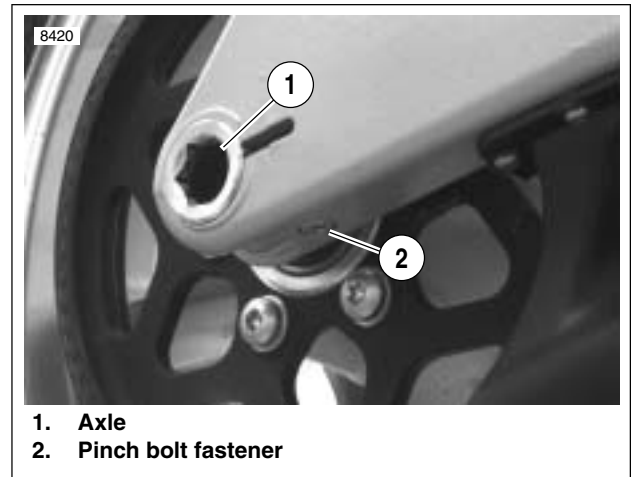

Figure 6-101. Rear Wheel Mounting, Right Side
17. See Figure 6-101. Tighten rear axle (1) to 23-27 ft-lbs (31.2-36.6 Nm), back off two full turns and then retighten to 48-52 ft-lbs (65.1-70.5 Nm).
18. Tighten pinch fastener (2) on right side of swingarm to 40-45 ft-lbs (54-61 Nm).